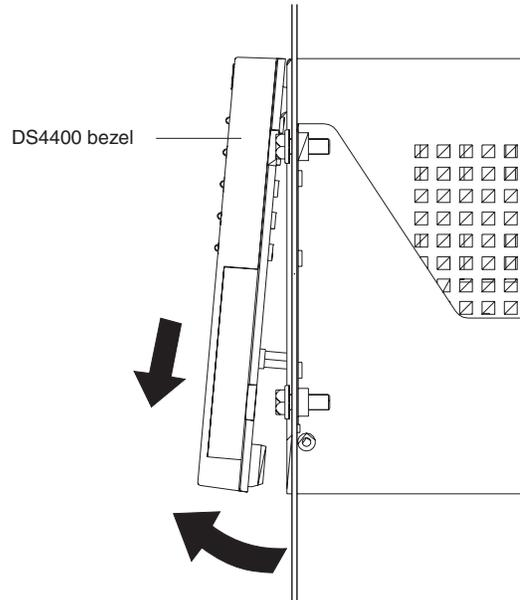

Figure 21. Removing the DS4400 Storage Server bezel
To access the controllers, battery, storage server fan, and indicator lights, you must remove the DS4400 Storage Server bezel, as shown in Figure 21 on page 23.
1. Carefully pull the bottom of the bezel out to release the pins; then slide the bezel down, as shown in Figure 21.
Note: To view the RAID controller indicator lights, remove the DS4400 Storage Server bezel, as shown in Figure 21 on page 23.
Note: To view the battery indicator lights, remove the DS4400 Storage Server bezel, as shown in Figure 21 on page 23.